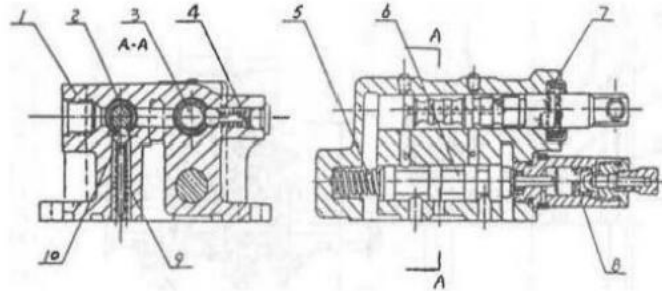

Figure 2-14 Transmission control valve
Transmission control valve (see Figure 2-14)
When the actuator pedals, the shutoff valve is in the position (Figure 2-14), the reversing valve is in the forward position, and the pressure oil leads from hole a to the forward clutch cylinder. When the driver presses the brake pedal, the pressure oil from the brake system enters the piston of the control valve assembly (8), which moves under the pressure oil, pushes the ejector rod to move the spool (6), and compresses the spring (5). At this time, the oil circuit from hole a to the forward clutch of the gearbox is cut off. Therefore, the main and slave plates of the forward clutch are separated and no longer transmit torque, which contributes to the braking of the off-road forklift truck.